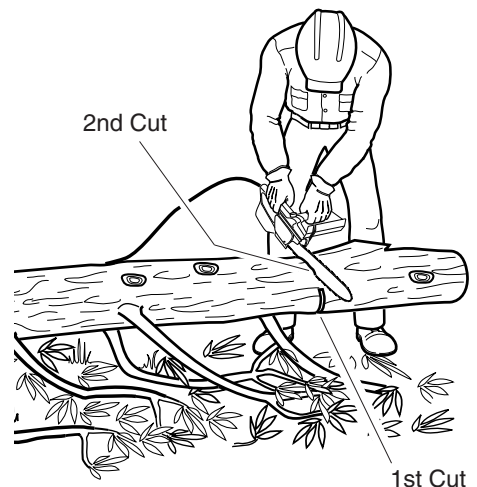

Figure 14 - Bucking Log When Log Is Supported On One End
1. Make first cut on underside of log (see Figure 14). Use top of guide bar to make this cut. Cut 1/3 through diameter of log. This cut will keep section from splintering when cut.